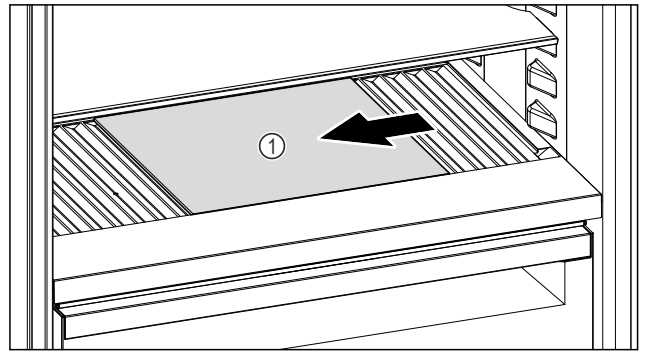

Fig. 164
- Move the glass shelf to Fig. 164 (1) the left, centre or right.